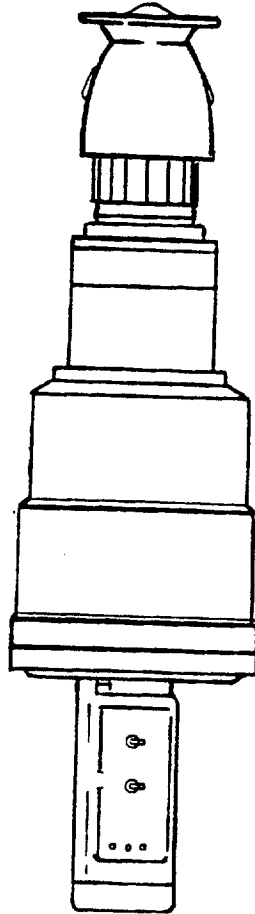

Figure 2-6. Attaching the Test Set, TS-4348/UV to the Sight.
4. Attach the test set, unit assembly with the AN/PVS-4 adapter to the sight as shown in Fig. 2-6.